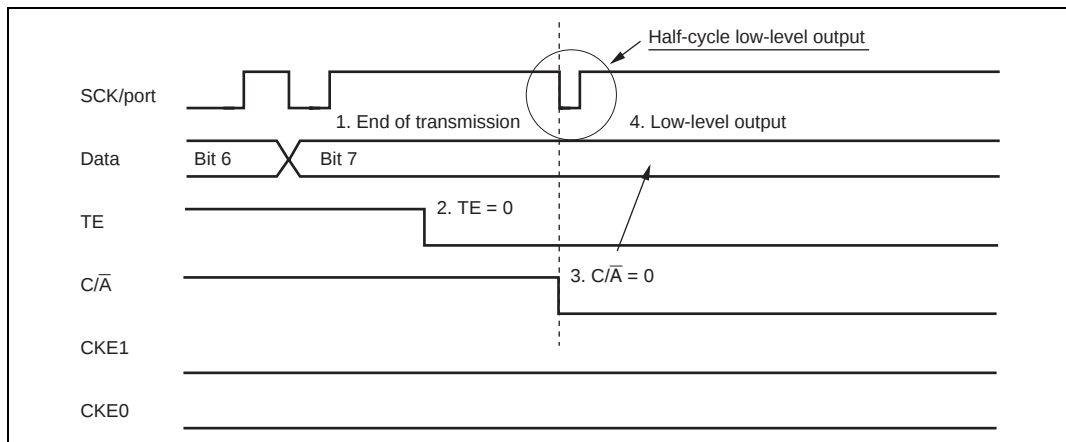

Figure 13.41 Operation when Switching from SCK Pin Function to Port Pin Function
- Occurrence of low-level output (see figure 13.41)